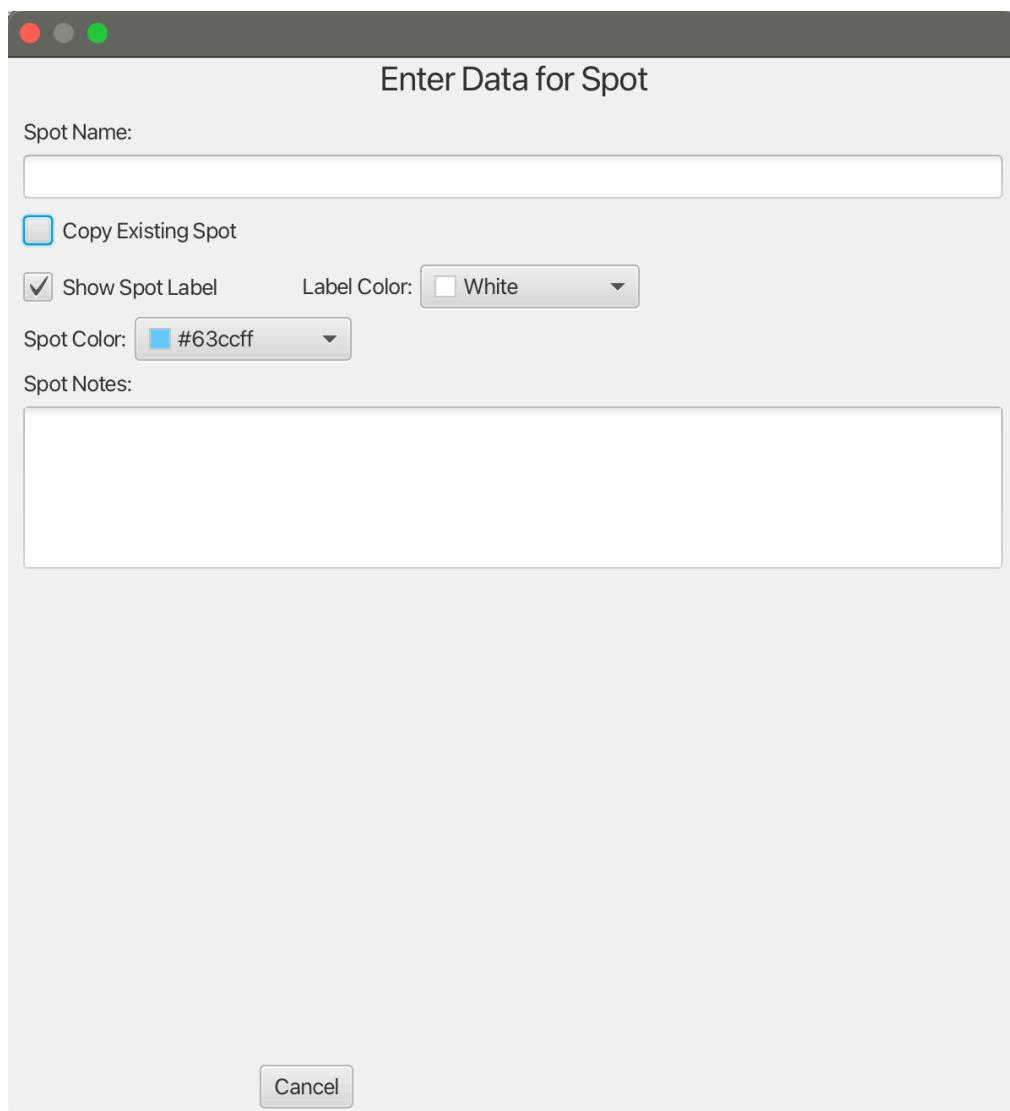

Figure 16: Add Spot configuration modal showing customization options for spot name, label color, spot color, transparency, and notes.
5. **Fill out spot information:** Once the spot is placed, a configuration modal appears (see Figure 16).
After selecting a spot type—**Point**, **Line**, or **Polygon**—a configuration modal appears (Figure 16) allowing you to define the following: